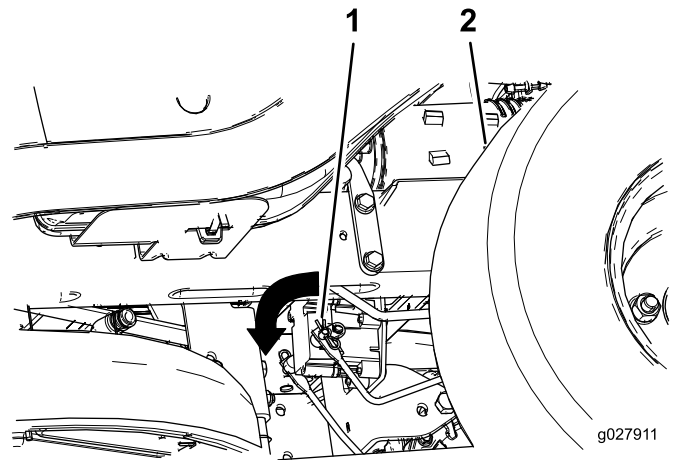

Figure 43
2. Locate the shaft on the electric brake where the brake link arms are connected (Figure 43).